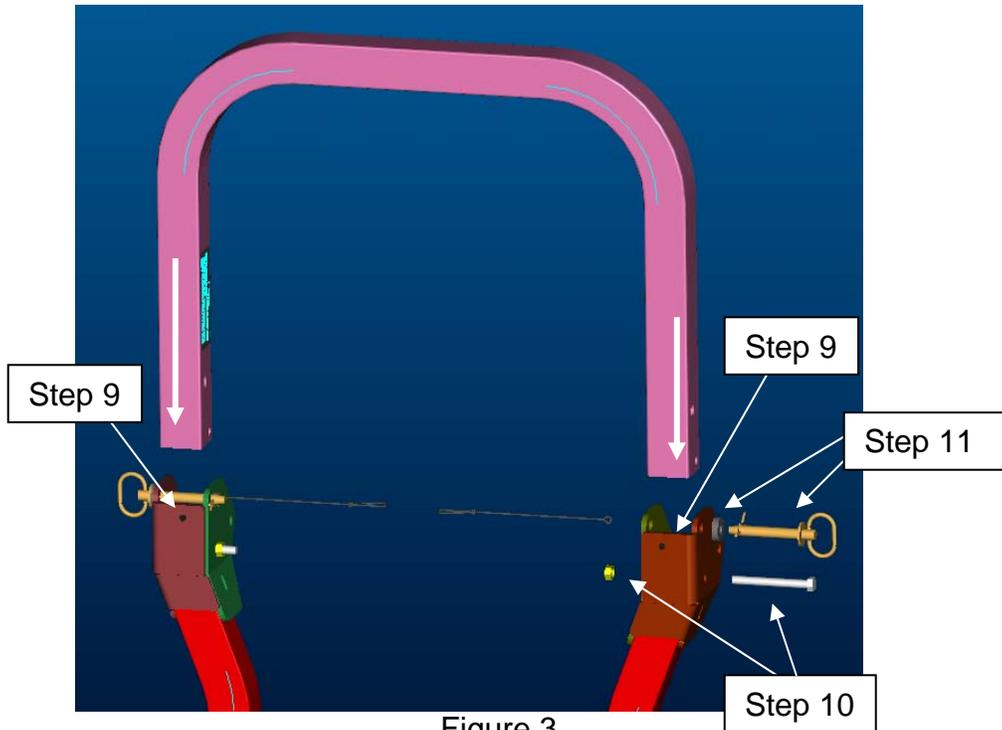

Figure 3
9. Install (1) rubber bumpers into the inside of each bracket leg. See Figure 3.
10. Slide top hoop (1-43883) in between plates on each leg, attach using (2) ½" – 13unc X 4" long and (2) ½" – 13unc center lock nut, in bottom pivot hole. See Figure 3.
11. Install hitch pin with EPDM washer, into upper hole of pivoting plate. See figure 3.